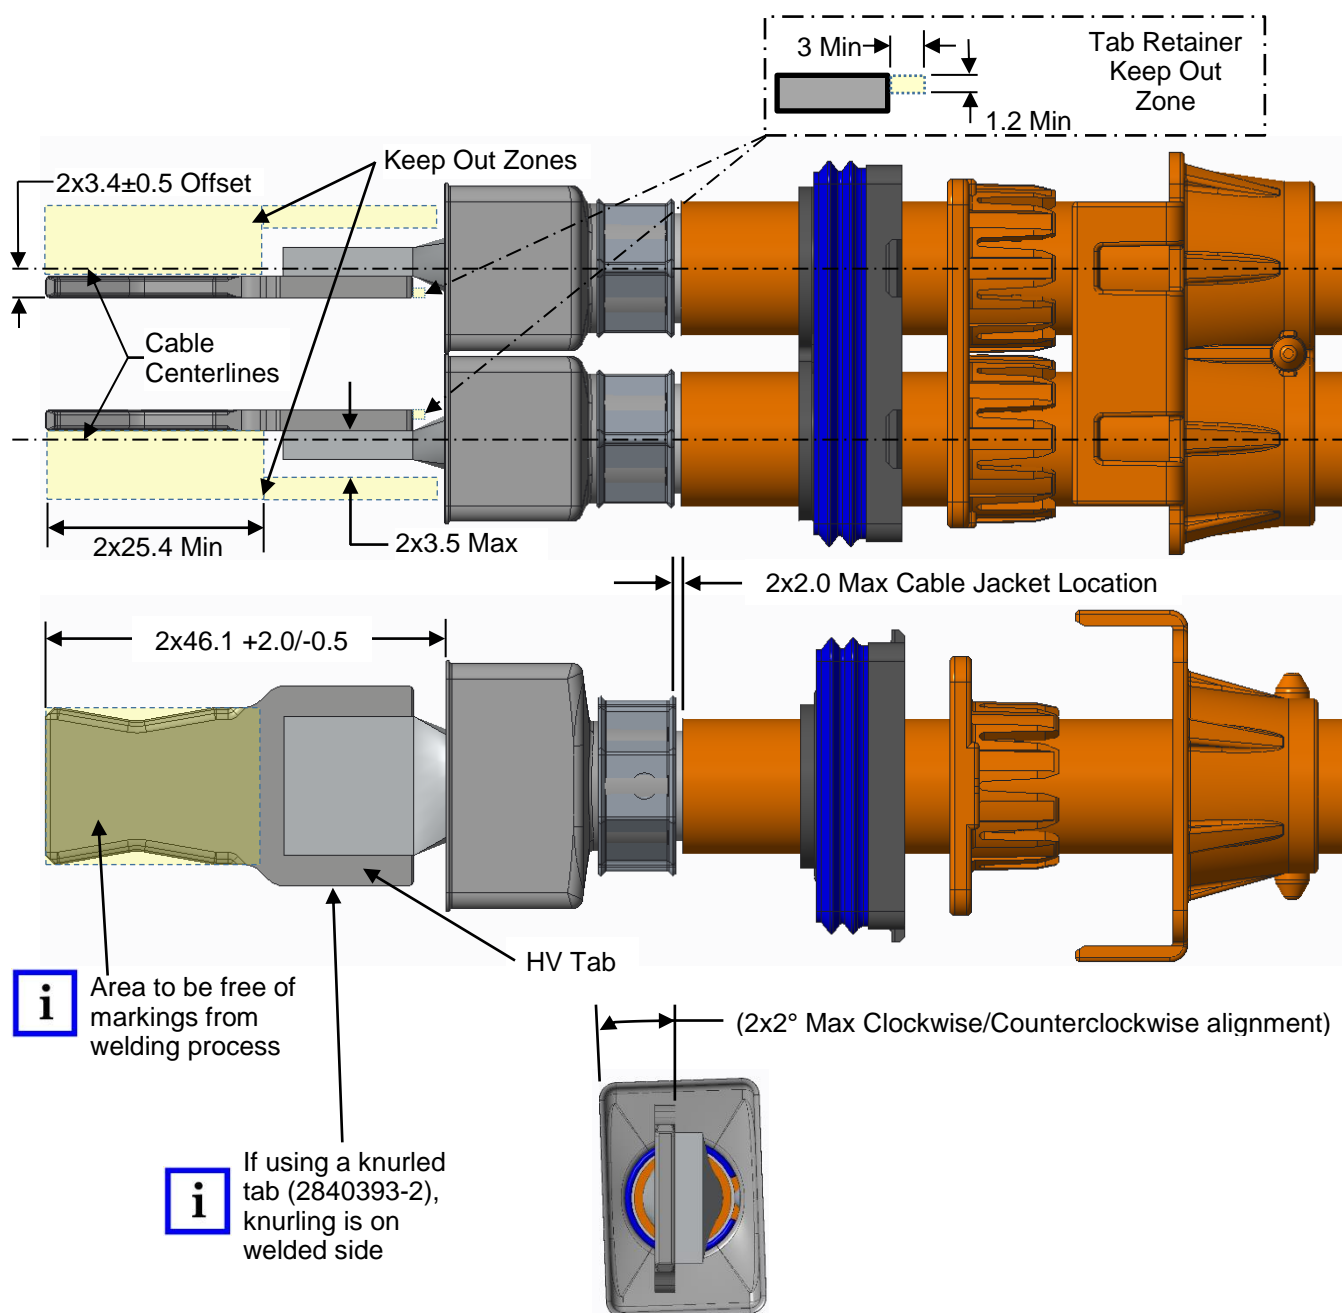

Figure 8: HV Tab ultrasonic welding
- E. **3.6.:** Pt.6 Fig 8 – Added note "If using a knurled tab (2840393-2) knurling is on welded side. Removed all references to low volume tooling in sec 2.2,2.3 and 2.4 – Table 1.
6. Ultrasonic weld HV Tab as shown in Figure 8. See SAE/USCAR-38 for weld bond appearance, mechanical and electrical requirements. Ensure that the keep-out zones are not violated. This is critical to ensure proper assembly.